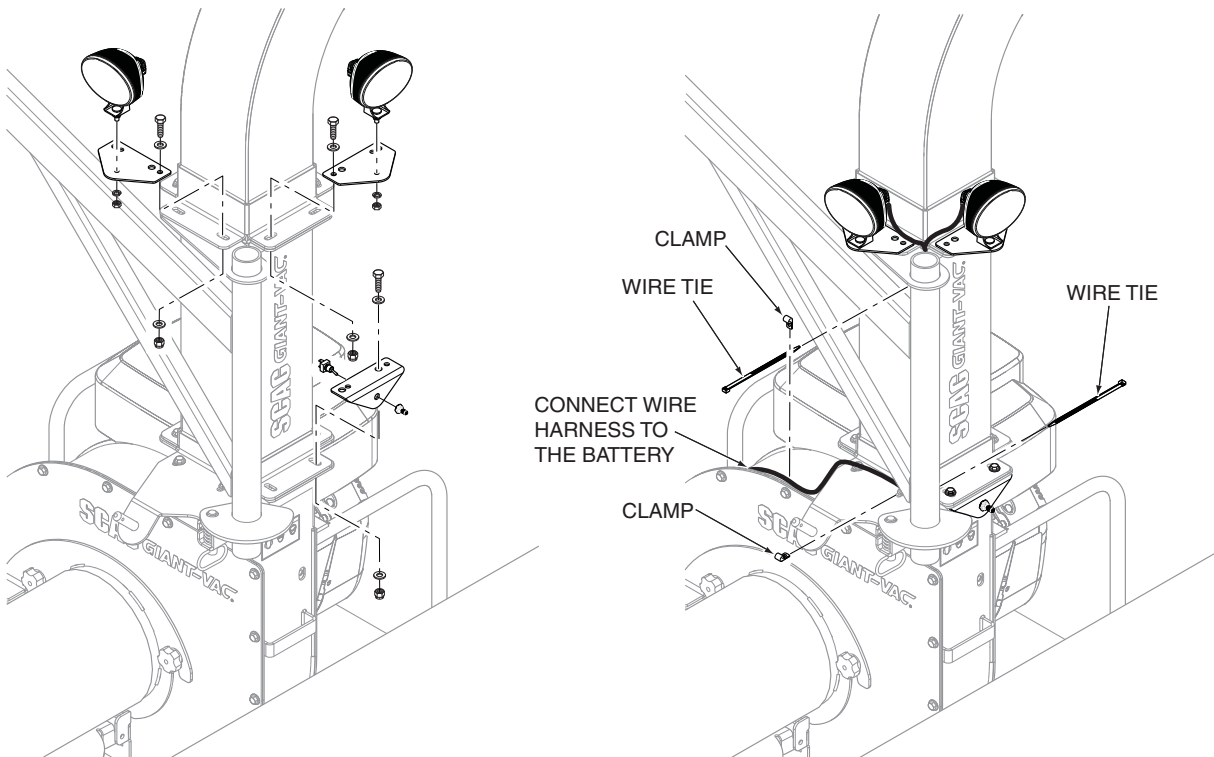
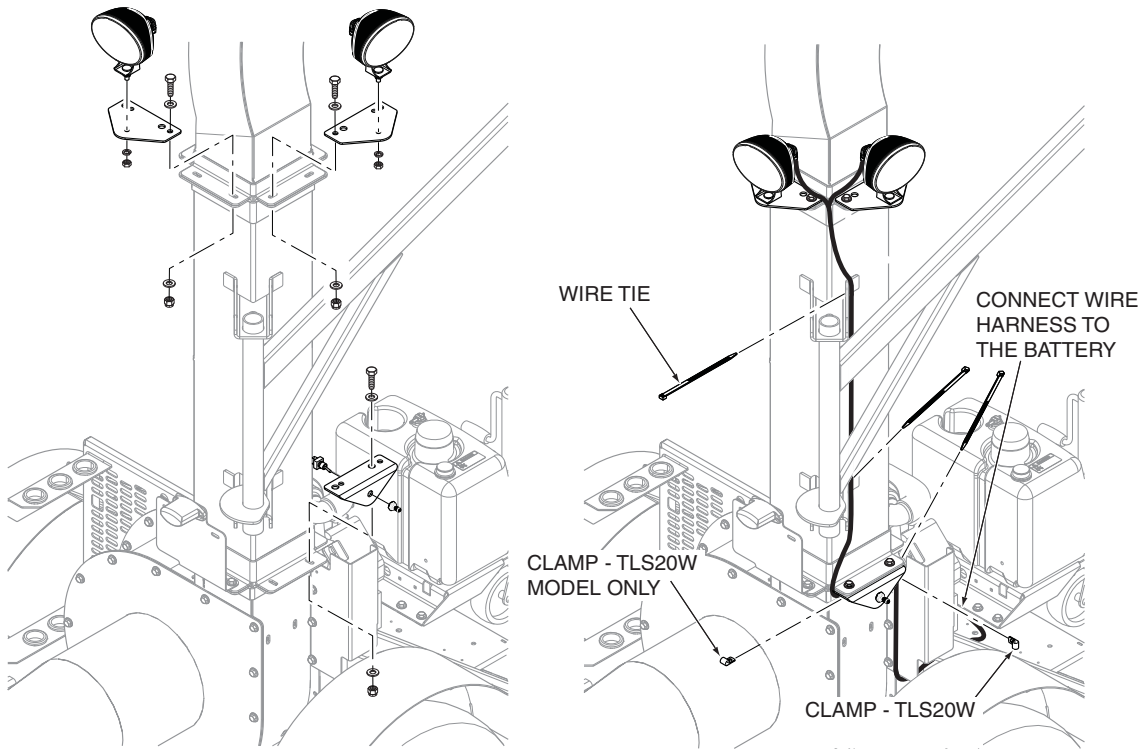
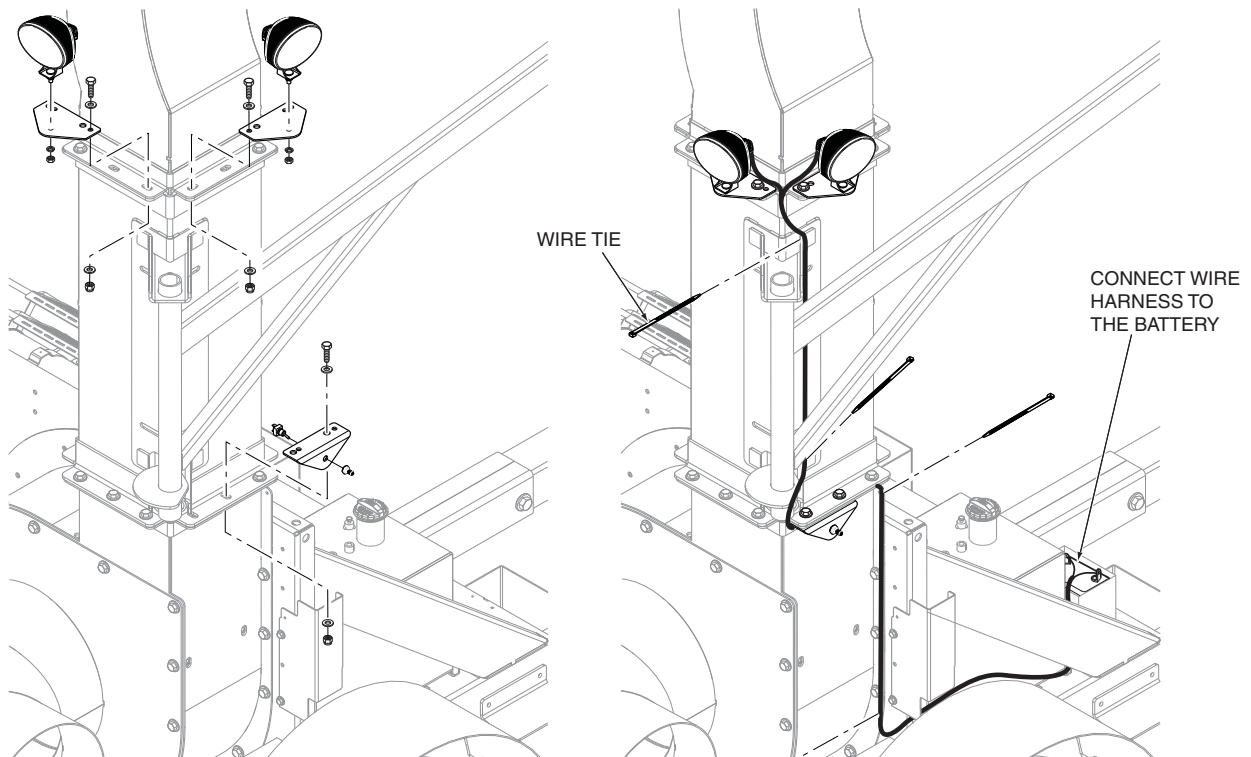

Figure 2. TLS / TLH20-18BV Light Kit Install
Figure 3. TLS20W / TL20W Light Kit Install
Figure 4. TLB25 Light Kit Install
3. Install the light mounting brackets and secure using the hardware removed in step 2. See Figure 2, Figure 3 or Figure 4 on the following pages for the model of truck loader this light is being installed on.
4. Install the lights to the mounting brackets. Do not tighten mounting hardware at this time. See Figure 2, Figure 3 or Figure 4 on the following pages for the specific model the specific model of truck loader this light is being installed on.
5. Install the light switch to the mounting bracket and secure. Install the light switch and mounting bracket assembly onto the truck loader and secure using the hardware removed in step 2. See Figure 2, Figure 3 or Figure 4 on the following pages for the model of truck loader this light is being installed on.
6. Install the light kit wire harness onto the light assemblies. Route the wire harness down the discharge stack and connect to the light switch. Route the wire harness from the light switch to the battery of the truck loader. See Figure 2, Figure 3 or Figure 4 on the following pages for the model of truck loader this light is being installed on.
- Secure the wire harness to the truck loader using the wire ties and clamps (if required). See Figure 2, Figure 3 or Figure 4 for the model of truck loader this light is being installed on.